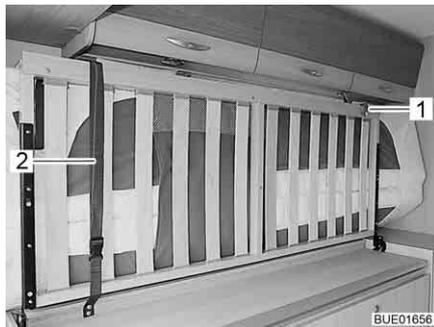

Fig. 10 Bed, folded to the side
- When the bed is folded to the side, secure it with the retaining belt (Fig. 10,2) and the securing strap (Fig. 10,1).